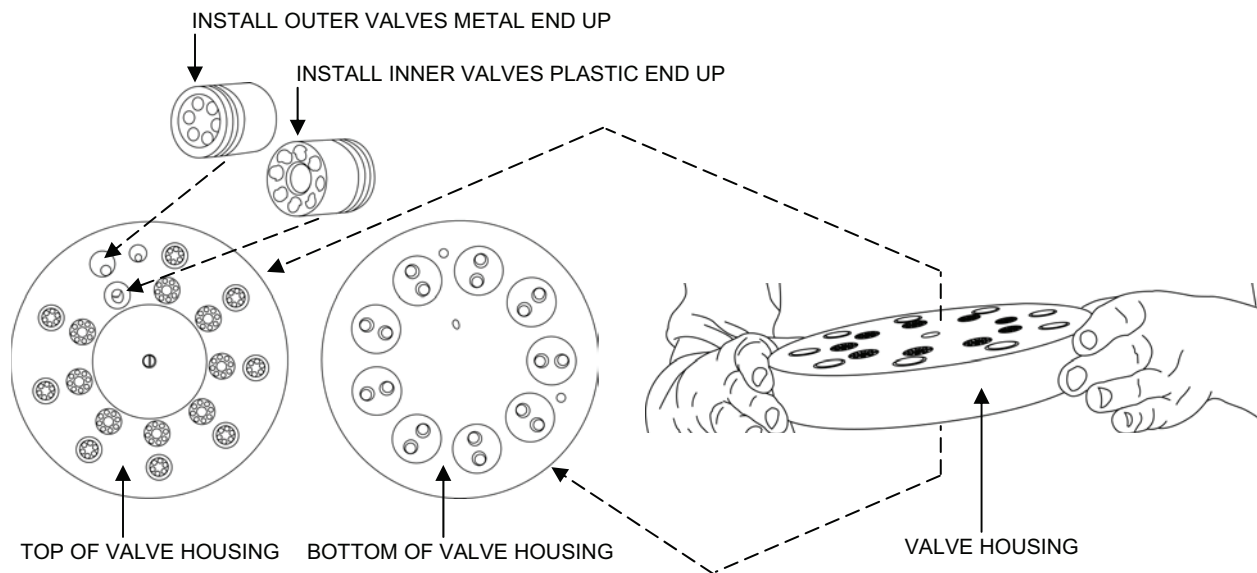

Figure 10. Disk Check Valve Replacement.
7. Remove and discard the old disk check valves from the valve housing (see Figure 10).